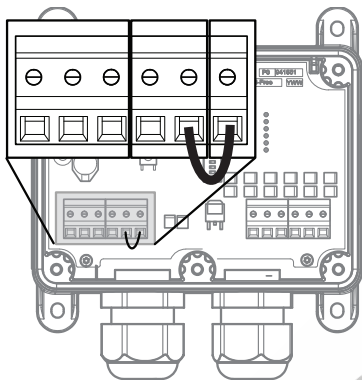

Figure 6. Configuring internal supply of output power
If the outputs are to be powered by the same 12/24 V DC supply as the receiver card, place a jumper between the Output Power Input (see ④ in Figure 1) and Positive (+) 12/24 V DC using a 0,75 mm² cable (see Figure 6).